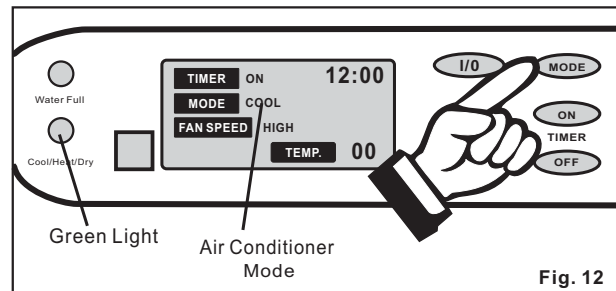

Fig. 12
3) Press the **MODE** key until the word **COOL** is displayed in the **LCD (Liquid Crystal Display)** window. Fig.12. Each depression of the **MODE** key will advance to a different mode setting (**Cool-Heat-Dry-Fan**).